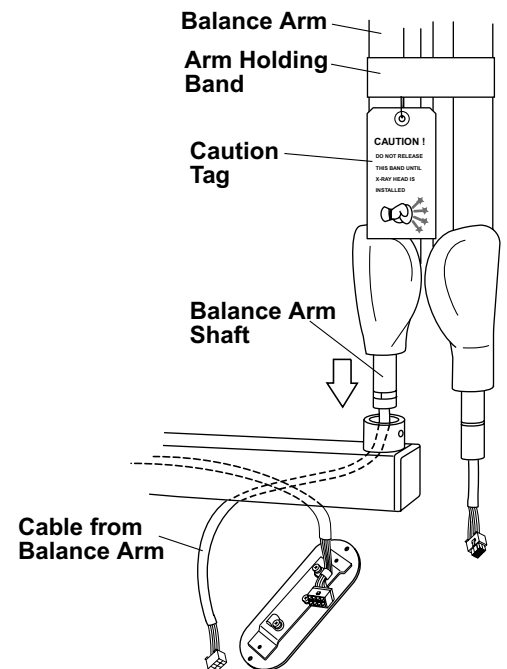

Fig.3-12A Balance Arm Installation
3. Route the cable with 8P connector from the balance arm shaft through the horizontal arm. Insert the balance arm into the horizontal arm. The cable should be fed through the bottom cover opening on the bottom of the horizontal arm. (Fig.3-12A)
5. Re-attach the bottom cover to the horizontal arm with two screws.(Fig.3-12A)